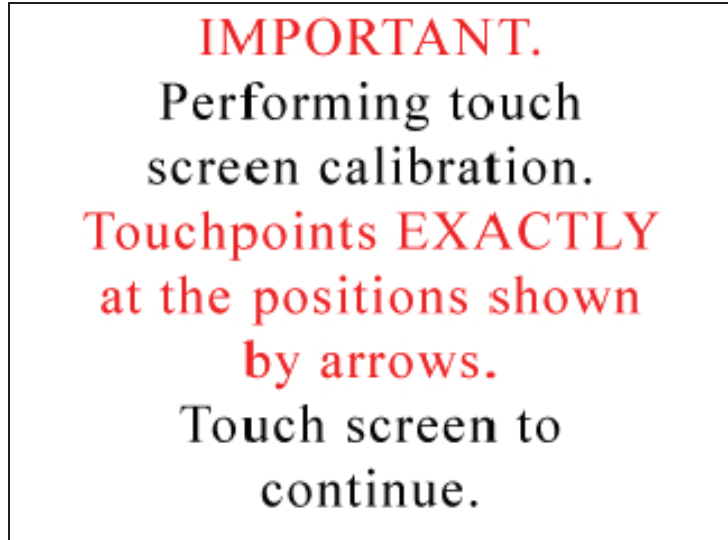

Figure 6-48 Alignment Screen 1
- The screen in Figure 6-48 appears. Touch anywhere on the screen to continue calibration.